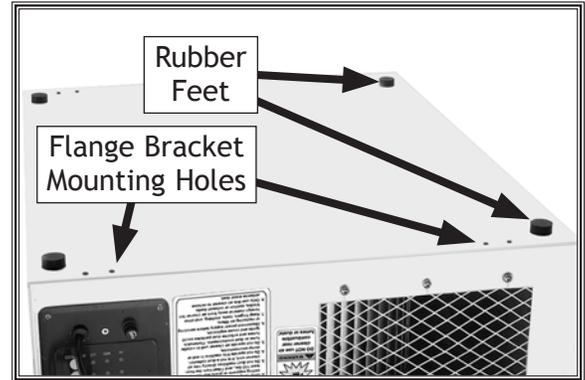

Figure 11. Rubber feet correctly installed.
2. Expose sticky backing on rubber foot and apply foot to bottom of air filter unit (see Figure 11). Repeat for each foot.